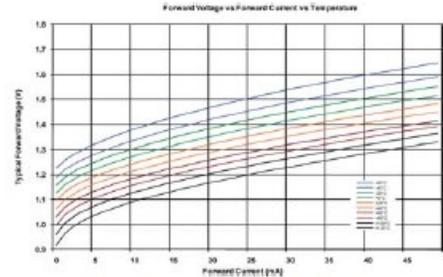
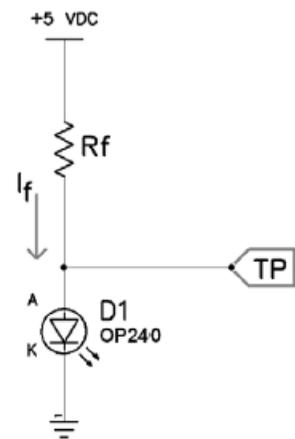

Fig. 1 Typical curve shown for  $\text{GaAlAs}$  LED
Fig. 2
This application note is intended to assist someone with little or no experience in connecting basic optoelectronic assemblies. A basic optoelectronic sensor assembly consists of two separate components. The first component that must be considered before making electrical connections is the LED, which is called the “emitter” and which will typically emit infrared light. The second is the phototransistor which is called the “sensor” or “detector” and which responds to the infrared light. To ensure good photo-coupling between the emitter and detector, it is recommended the user consider using a standard Optek assembly. The Optek OPB815WZ is a very good example of an Infrared Slotted Switch and will be used in this example. The first step when connecting the sensor assembly is to provide appropriate power to the LED which is why it is important to understand two key characteristics of the LED. These are the forward voltage ( $V_f$ ) and forward current ( $I_f$ ). The forward voltage is the minimum voltage required to turn on the LED. This will change depending on the desired forward current and ambient temperature. For gallium aluminum arsenide LEDs,  $V_f$  typically will be 1.2 to 1.3 volts DC @  $I_f = 20\text{mA}$ , as seen in the forward current curves in Fig. 1. The forward current will determine the amount of power emitted by the LED. The datasheet will specify the range of forward current that can be safely used without causing damage to the LED. Typically, the forward current will be set at 20 mA. The forward current can be controlled by placing a current limiting resistor in line with the power supply and the LED as shown in Fig. 2.
As seen in Fig. 2, the positive voltage source will be connected through the resistor to the anode (A) while the cathode (K) is connected directly to ground. Alternatively, the voltage source can be connected directly to the anode, and the cathode can be connected through the resistor to ground. The anode can be easily identified on the LED as it is usually the longer of the two leads. Or, in the case of an Optek assembly with wires such as the OPB815WZ, the anode will typically be the red wire and the cathode will be the black wire. Before making connections, verify the pin outs by checking the data sheet of the particular LED or assembly that you are using. To verify the connections, measure the voltage at TP to ground and confirm it is 1.3 V. If it measures 5 V, the LED is open or backwards, or there is a wiring problem. If it measures 0 V, the LED is shorted or there is a wiring problem.